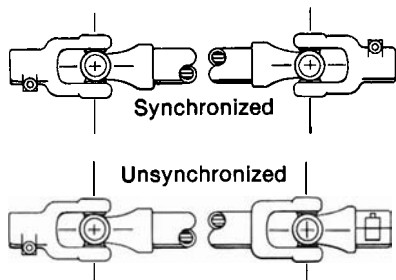

Figure 6
3. Make sure tumbling bar (coupling shaft) is assembled with its universal joint knuckles "synchronized," as illustrated in Figure 6. If knuckles are not synchronized, the bar will chatter when rotating, which will cause the generator output voltage to fluctuate.